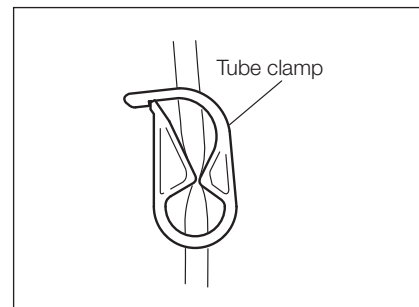

Fig. 12
- (3) ① Close the tube clamp located between the irrigation tube needle and the irrigation pump, as illustrated in Fig. 12.